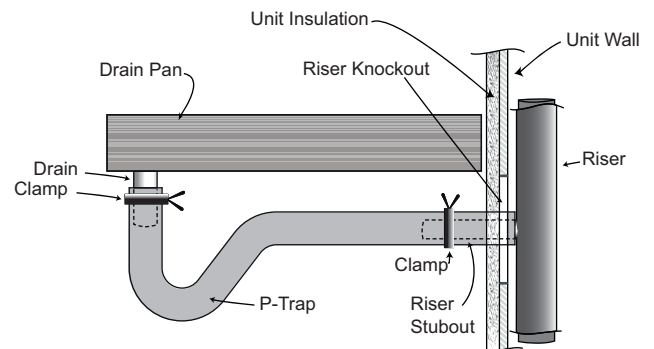

Fig. 33 — 42SMA Riser to Drain Installation
9. Locate the p-trap drain and rubber hose factory installed to the drain pan connection in the bottom of the unit as shown in Fig. 33.
11. Adjust the hose clamp over the riser stubout and rubber hose to hold in place as shown in Fig. 33.